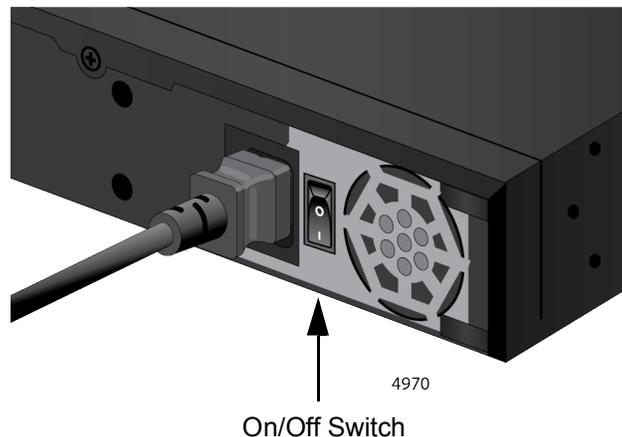

Figure 13. Plugging in the AC Power Cord
2. Plug the power cord into the AC power connector on the back of the chassis, as shown in Figure 13.